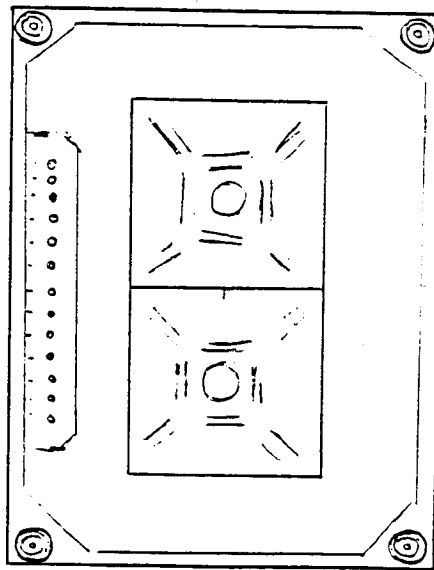

Figure 1. Spacer Installation
- 3) Install spacers (see Figure 1).